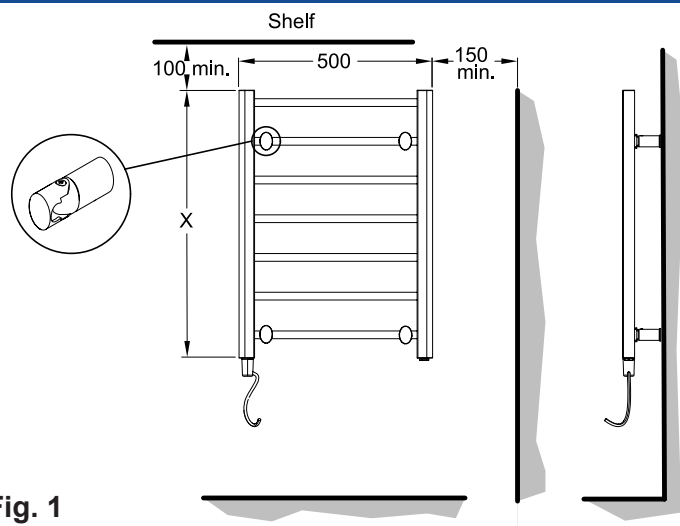

Fig. 1
WARNING: to ensure safe/ correct operation the rail must only be mounted vertically as shown in Fig. 1, observing the minimum clearances stated.
1. Mark suitable mounting hole positions for the fixing brackets (ensuring they are horizontal) - see Fig. 3, ensure to allow enough room above and below to maintain the minimum clearance stated in Fig. 1.